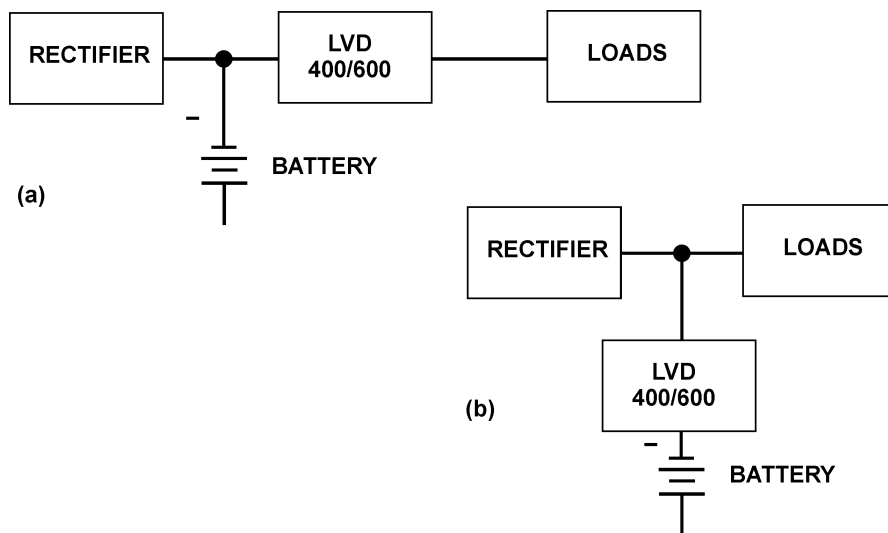

Figure 4. Connections for LVD400/600
- 11.2 For load disconnect operation, it is connected between the rectifier and loads. See Fig. 4(a).
- 11.3 For battery disconnect operation, it is connected between the battery and loads. See Fig. 4(b).
- 13.2 **Connections.** Power connections should be made to the disconnect bus bars using ¼-inch diameter bolts with nuts. See Figure 4. The Form C relay contact and battery connections are made to the miniature screw terminals. The chassis ground connection is made to the no. 10-32 stud. See Section 12.4. This safety ground connection should be made before operating the